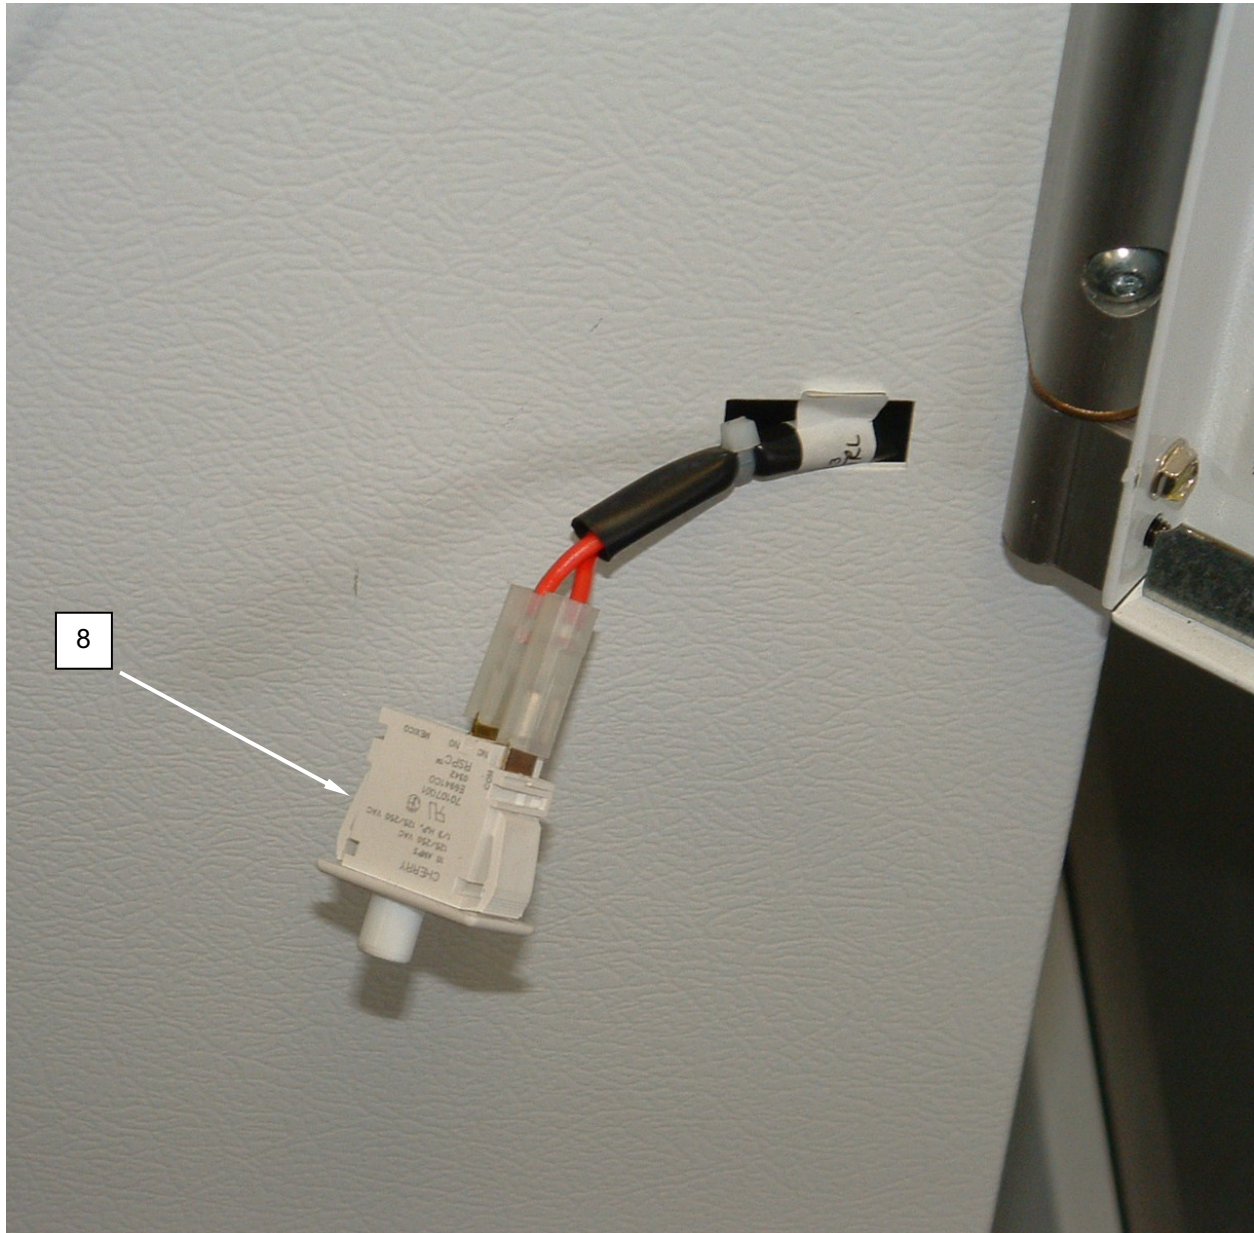

Figure 12. Replace the Dryer Door Switch.
3. Remove the switch (**Figure 12, Item 8**) by prying gently with a small screwdriver.
4. Tag and disconnect wiring from switch (**Figure 12, Item 8**).
5. Connect wiring to replacement switch (**Figure 12, Item 8**) as tagged.
6. Install switch (**Figure 12, Item 8**).